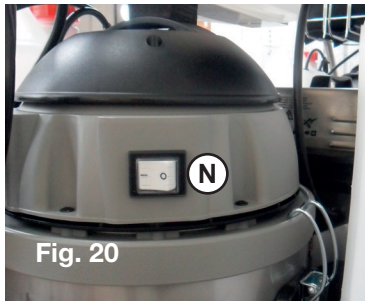

Fig. 20
This appliance is for use on a nominal 120-V circuit and has a grounding attachment plug that looks like the plug illustrated in sketch A in figure 20. Make sure that the appliance is connected to an outlet having the same configuration as the plug. No adaptor should be used with this appliance.
Make sure the switch (N) on the collection bin is in the ON position (fig. 20).